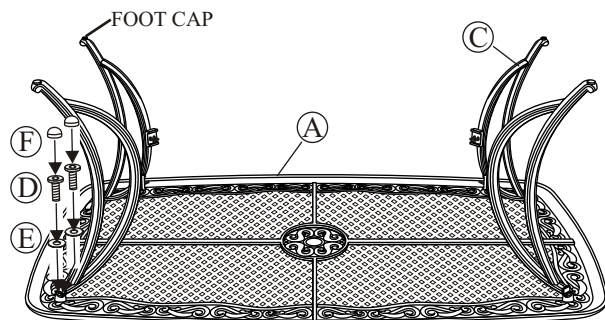

Fig.1
1 Important: We recommend 2 people work together to assemble the chair. Note the arrow labels on the "U" bar and the rocker assembly. Also note the horseshoe shape of the rocker plate. Point the open end of the horseshoe away from you. The arrows on the rocker assembly should be pointing towards you. Set the chair frame on the rocker assembly with front of the seat facing you and the arrows on the "U" bar pointing towards you as shown in *Figure 1*. This is very important for a safe, balanced rocking motion. **If chair frame has been properly positioned on the rocker assembly, all arrows on the "U" bar and rocker assembly will be pointing in the same direction.**
Step 2: Place the table top upside down on a flat, non-abrasive surface. Attach a table leg to the table top by using the bolts and washers as shown in Fig.1. Guide bolts through holes in the table legs and into the pre-drilled holes in the table top. **Hand tighten 2-3 turns only.** Repeat for the other three legs.